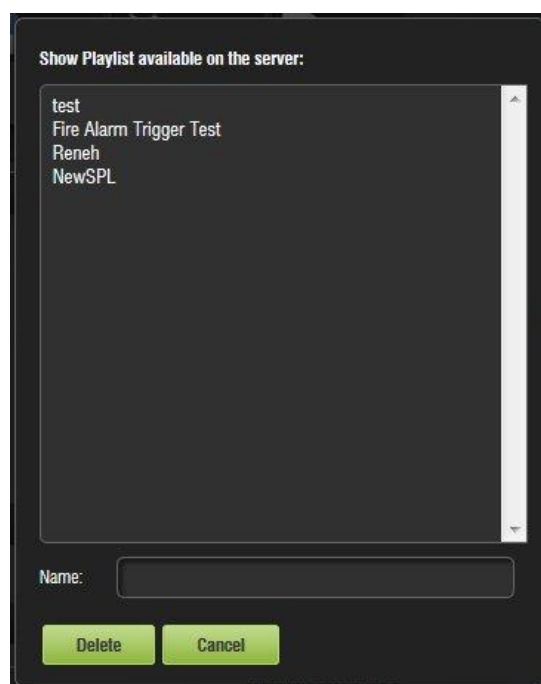

Figure 235: Delete SPL Window
- The Delete window will appear (Figure 235).